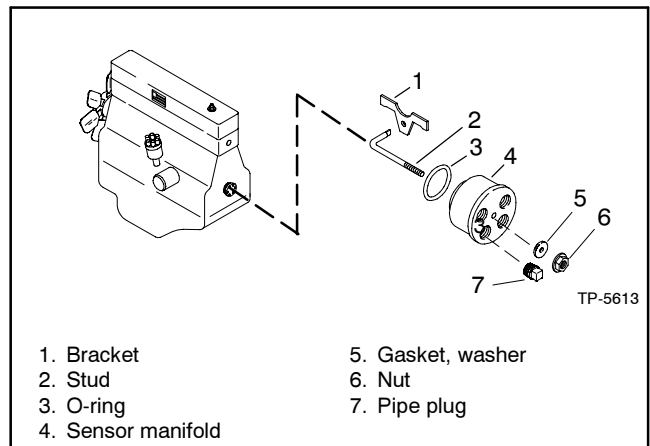

Figure 3 Existing Sensor Manifold and Components
- 2.6 Remove the sensor manifold and components from the engine block. The sensor manifold and components shown in Figure 3 will not be reused.